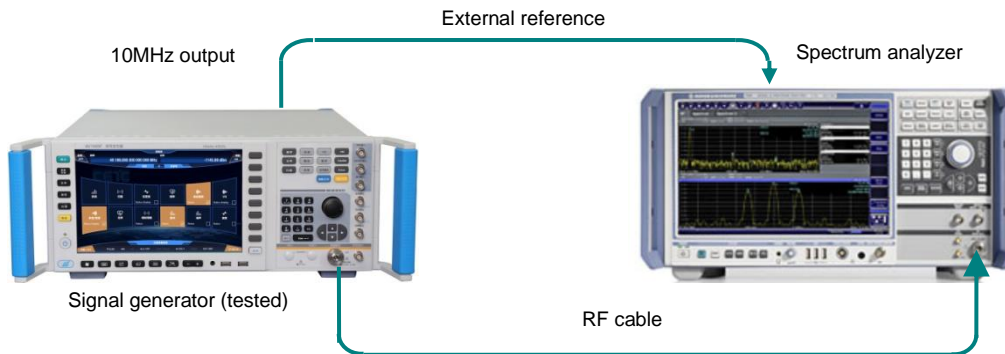

Figure 8.6 Low Power Test
**Step 3. Connect the spectrum analyzer to the signal generator as shown in Figure 8.6. Set the power of the signal generator to 0 dBm. Set this level to the reference level and use the spectrum analyzer relative measurement mode to set the signal generator power to the minimum ALC power. Use the spectrum analyzer to test relative difference P2 of its minimum ALC power relative to 0 dBm (P1 + P2 is the measured value of the minimum ALC output power) and record the measured value on the test record table.**
**Step 5. Connect the spectrum analyzer to the signal generator as shown in Figure 8.6. Set the signal generator power to 0 dBm, attenuate to the minimum indicated power P2 with the step of 10 dB, and test the relative difference P3 between the power at each frequency point and 0 dBm.**